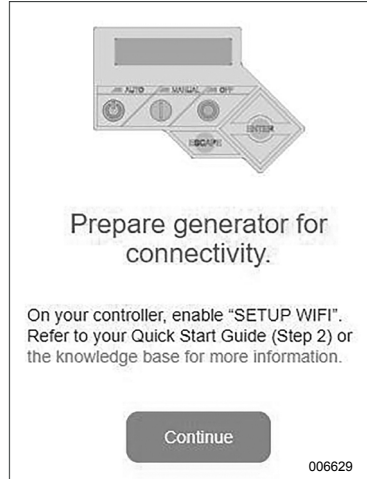

Figure 3-9. Preparation Screen
3. See Figure 3-9. Click "Continue" when the preparation screen appears.